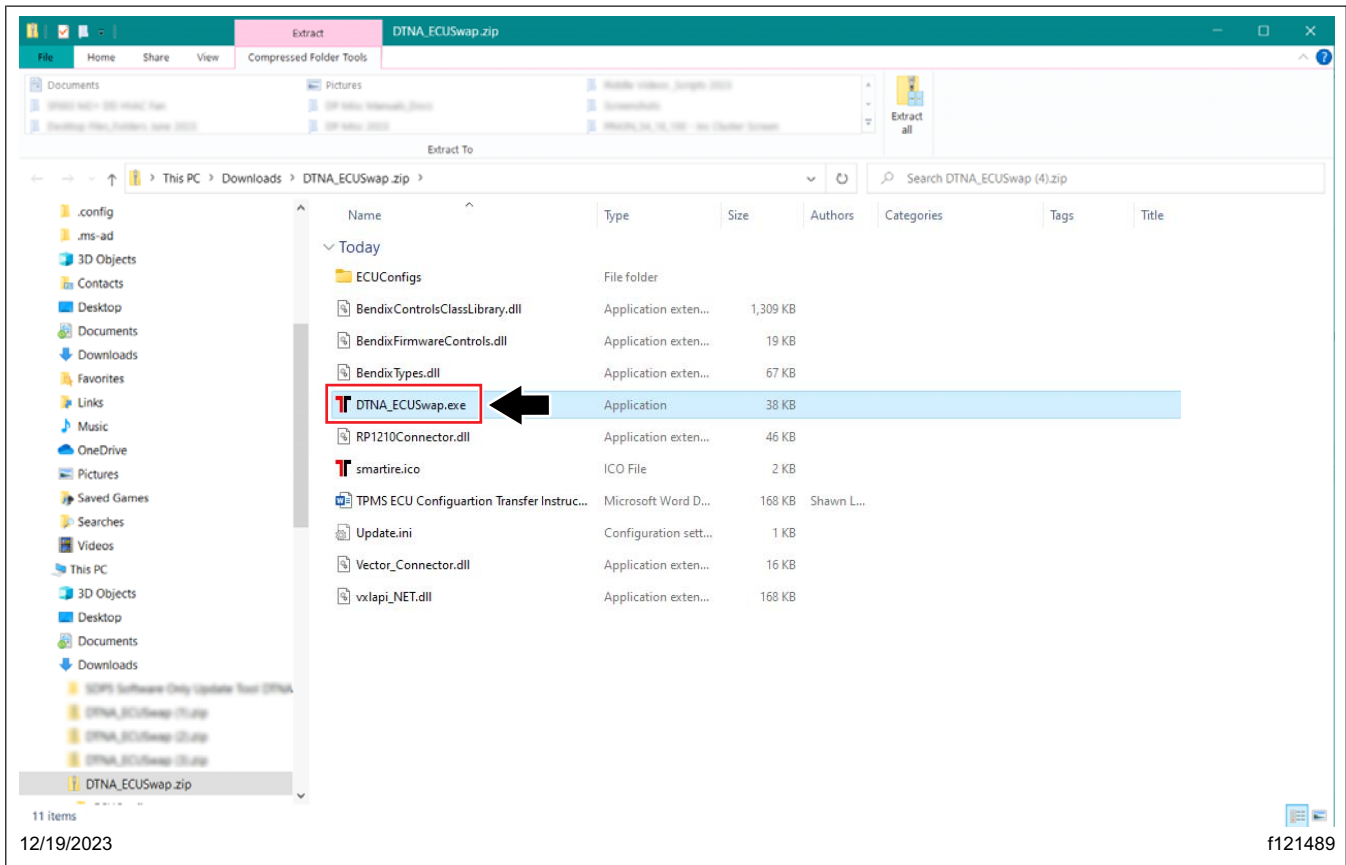

Fig. 21, Running the Application
2. The extracted contents are shown in a new window. Double-click to run the 'DTNA_ECUSwap.exe' application. See Fig. 21.